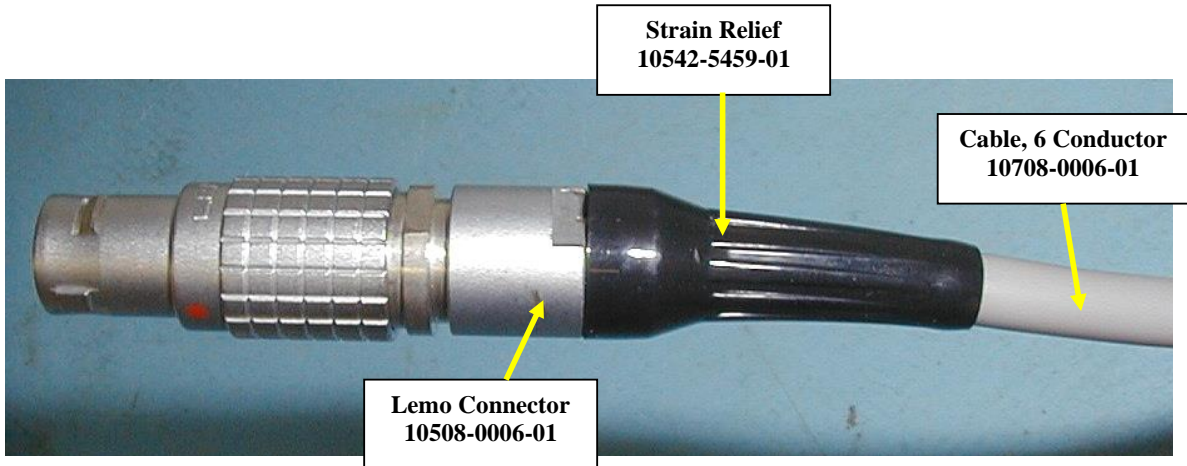

Figure 17
- 7.10. Pull the strain relief into place at the end of the LEMO Connector as shown in Figure 17.